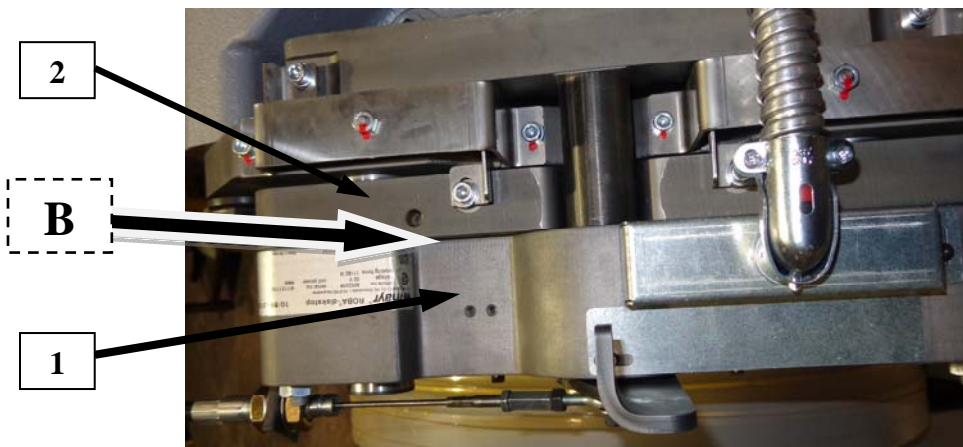

Figure 25: Position not specific, shown to Illustrate Air Gap between parts
- **IMPORTANT:** With Brake de-energized - See Figure 25 below. Air Gap “B” between Coil Carrier Assembly “1” and Armature “2” should be less than .040”. Note: Brake under pressure from counterweight load may exhibit uneven air gap. Check air gap at 4 places (See Figure 26) around brake and calculate the average the readings. If average air gap measures greater than .040”, consult Hollister-Whitney.